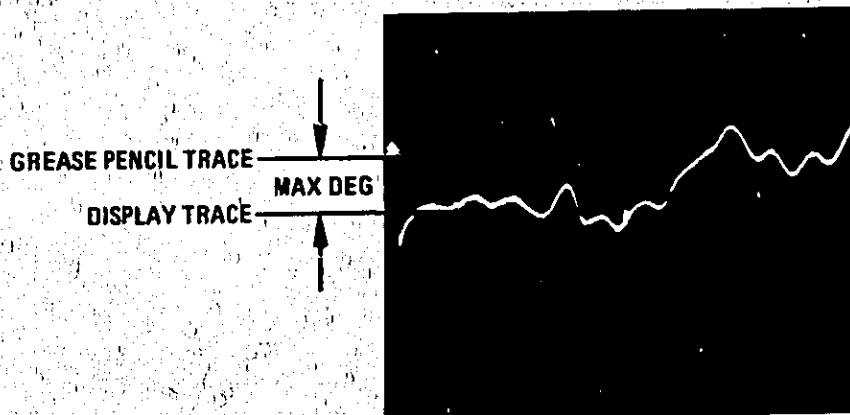

Figure 11. Reflection Frequency Response Phase
- (5) On 8505A Signal Processor Channel 2 press the REF OFFSET pushbuttons to center the display around the grease pencil phase trace.
- (6) Measure the maximum difference between the grease pencil trace and the display trace (Figure 11). This measured value should be $<15^\circ$ for the entire 0.5 to 1300 MHz frequency range.
- (1) Repeat steps h (1) through h (5).
- (2) Measure the maximum difference between the grease pencil trace and the display trace (Figure 11). This measured value should be $<10^\circ$ for the 2 to 1300 MHz frequency range.
- (3) Remove grease pencil trace from CRT.